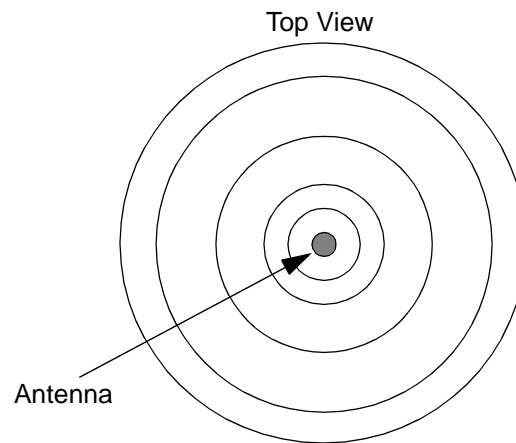

Figure 2-7. Omnidirectional Radiation Pattern
The CTPhone Base Station uses an *omnidirectional* antenna system. Radio frequency (RF) energy *radiates*, or *propagates*, equally in all directions on a horizontal plane. RF energy behaves like a pebble tossed into water. When a pebble hits the water, ripples move outward across the water's surface in concentric circles on a horizontal plane (Figure 2-7).